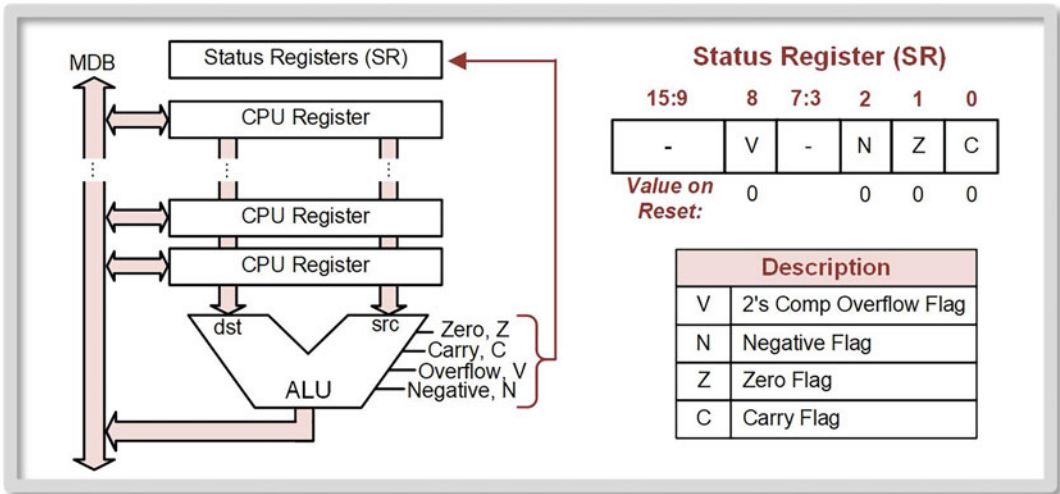

Fig. 7.1
The ALU can be thought of as a collection of combinational logic circuits, each that can perform a desired operation on the data coming from CPU registers. For every operation that is desired when designing the CPU, a new circuit is inserted into the ALU. Every effort is taken to try to optimize the amount of logic in the ALU, but conceptually, instructions that use the ALU can be thought of as accessing separate circuits. The output of the ALU is not registered, so its output must be put back into either a CPU register or memory. A key feature of the ALU is that it has circuits that monitor the operations and produce status flags (or status bits). These flags are stored back into the status register in the CPU and then can potentially be used by subsequent instructions. The flags are two's complement overflow (V), negative (N), zero (Z), and carry (C). Each of these flags is asserted when the condition exists. The carry flag can also be used to indicate a *borrow* when performing subtraction. Figure 7.1 shows a conceptual model of the ALU and SR.